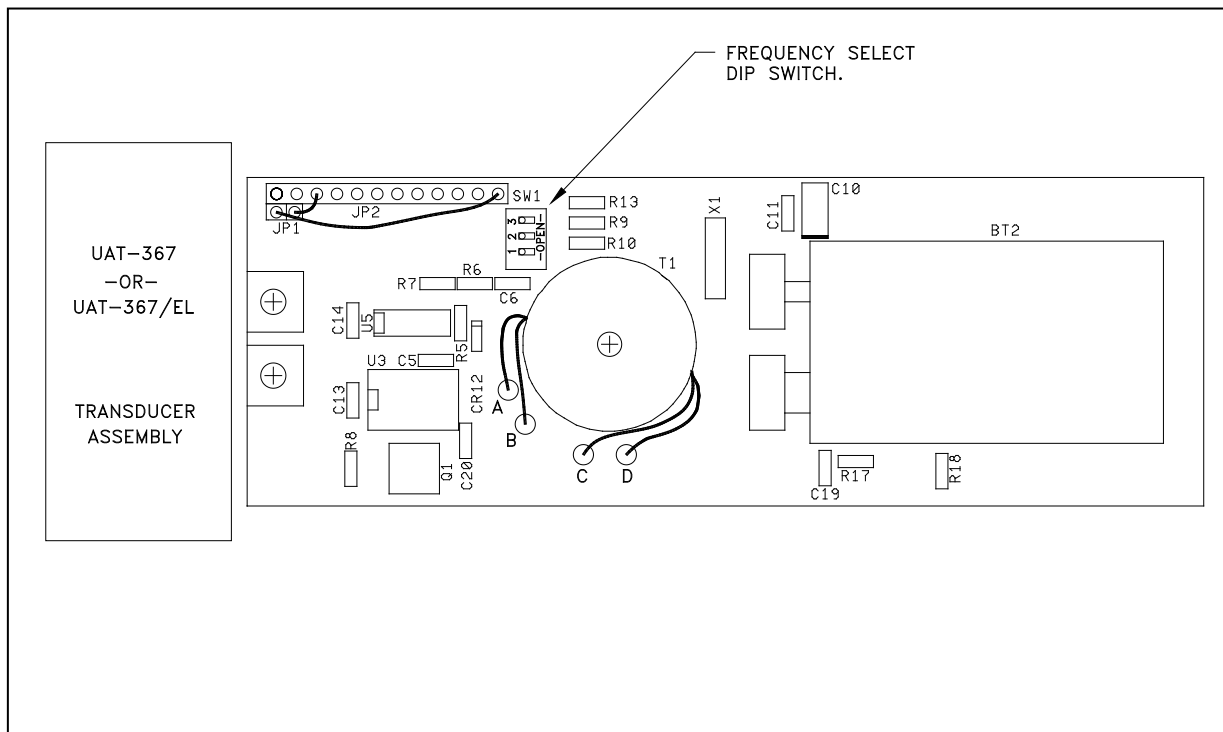

Figure 2 The UAT-376 Series Hardware Settings
Figure 2 The UAT-376 Series Hardware Settings	5
- ◆ Note the location of the switches for setting the operating parameters (Figure 2).
The ability to select the UAT-376 transmit frequency eases compatibility with the Benthos Dive Ranger DRI-267A channels or other equivalent interrogators and differentiates the transponder from other units deployed in the area. The frequency is set with the three-switch DIP on the circuit board adjacent to the transformer (see Figure 2).